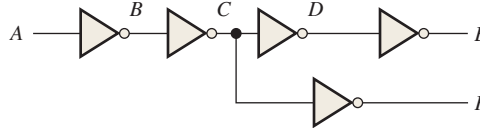

FIGURE 3-77
2. A combination of inverters is shown in Figure 3-77. If a LOW is applied to point *A*, determine the net output at points *E* and *F*.
3. If the waveform in Figure 3-76 is applied to point *A* in Figure 3-77, determine the waveforms at points *B* through *F*.